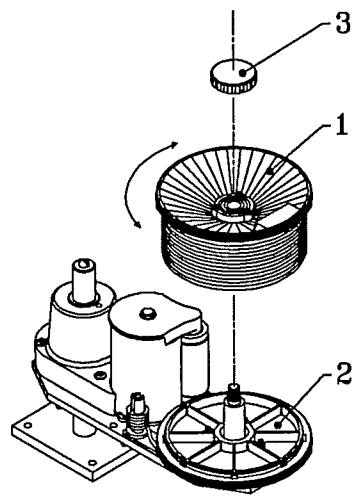

Figure 7 : Positioning the text
3.4.2 Positioning the text on the product (see figure 7)